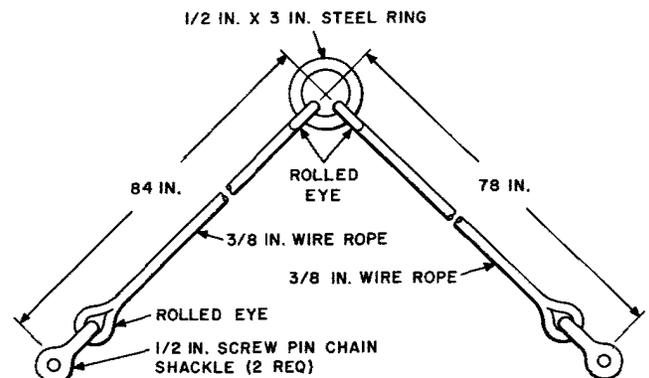

Fig. 2—Hoisting Sling (Long)
(c) Hoisting sling as shown in Fig. 2, or equivalent (required for L9 and L14 antennas).
- (2) Attach the long hoisting sling (Fig. 2) to the 3/4-inch bolts which were installed previously in the L11 mounting clamp beam jaws.
- (3) Attach the lower block of the 3-sheave block and fall to the ring in the sling. With the block and fall pulled up tightly, slowly raise the load line, lifting the antenna clear of the shipping base. Slack off the block and fall as the load line is raised. The antenna will rotate into a vertical position supported completely by the hoisting sling which is directly attached to the load line.
- (4) Remove the 3/4-inch bolts and hence the ends of the sling, from the two L11 mounting clamp beam jaws. Unhook the lower end of the block support from the ring in the sling and slide the support down the load line until the upper block can be reached conveniently. Remove the block and fall from the support. Remove the block support from the load line. During the above operation, observe extreme care to avoid dropping any part of the gear on the antenna.
- (5) Install the two remaining L11 mounting clamp beam jaws on the mounting frame. Insert the heads of the four L11 mounting clamp